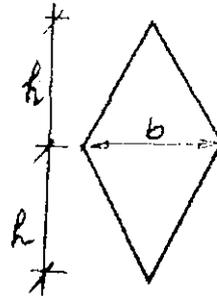

Fig. 5
14. (a) Determine the shape factor of the diamond section shown in Fig. 5.